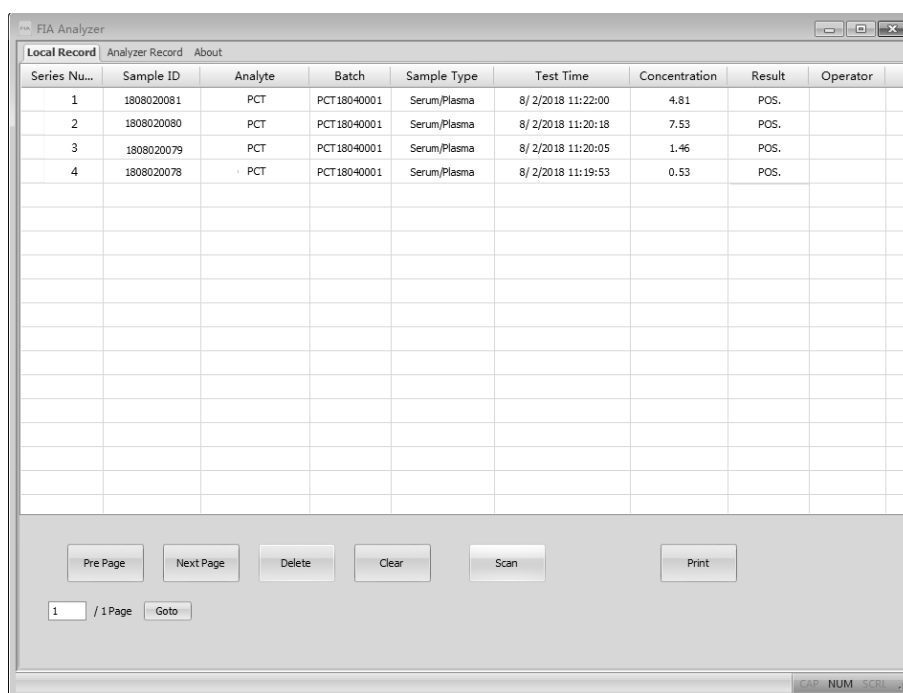

Fig 43
- **“Scan”**: Scan command would perform the same functions as pressing Test key or tapping new test on the analyzer. Place the test cassette, after sample addition (and buffer addition, if the method requires so) into the test card slot, and double click **“Scan”** command. (Same function as **Quick Test** mode in the analyzer), the test result will appear on the Local Record tab.(Ref Fig 43)